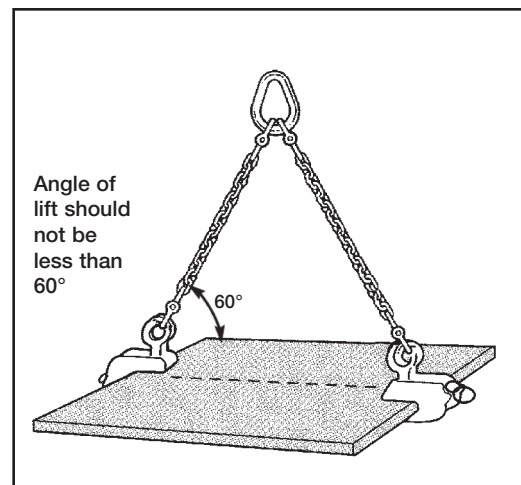
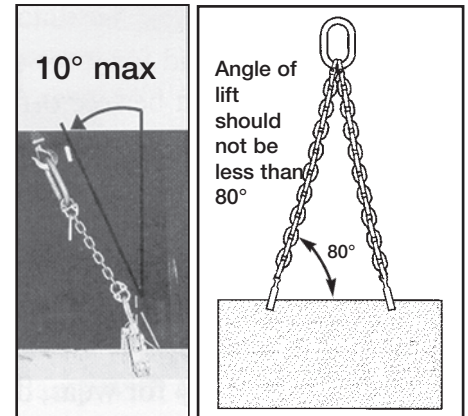

Figure 37
Figure 38
Determine if more than one sling is required to balance the load. When the size or shape of a plate or fabricated section is too large for a pair of clamps to properly balance the load, the use of a multiple sling or spreader bar is required (Fig. 37).
- B. The lifting angle (Fig. 37) between the sling legs on opposite sides of the load should be less or equal to 60 degrees. The lifting angle (Fig. 38) between the sling legs on same side of the load should be less or equal to 20 degrees.
Position the clamp(s) to balance the load. Position the clamp(s) so the lifting force of the crane is directly in line with each clamp's lifting shackle, and the load is evenly distributed (Fig. 38).